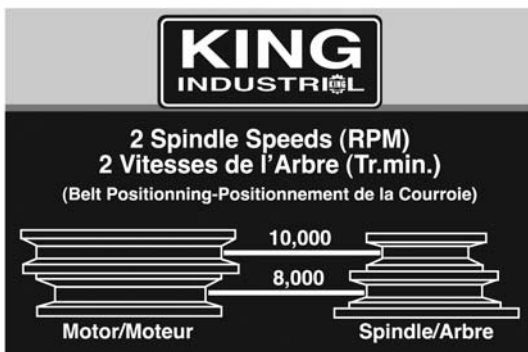

FIGURE 18
This shaper comes with 2 spindle speeds (8,000 and 10,000 RPM) which are adjusted by changing the belt positioning on both the motor pulley and spindle pulley. See speed/belt positioning nameplate Fig.18 as reference. To change spindle speed, proceed as follows;
- 2) Readjust the belt positioning to achieve the desired speed. See Fig.18.